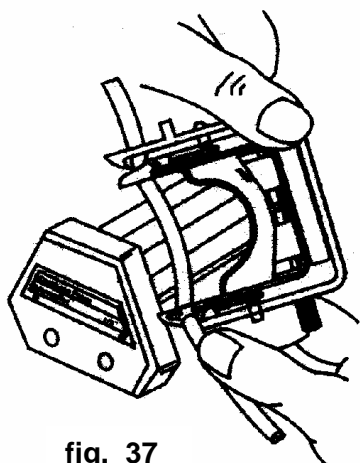
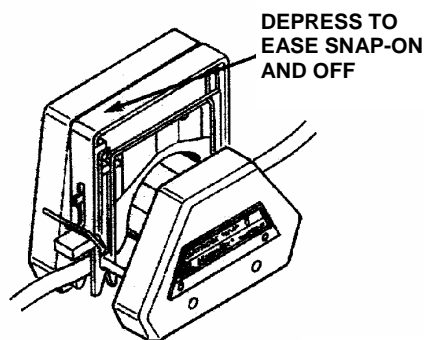

fig. 37
fig. 38
- Fold hose over rotor, depress latch (refer to fig. 37) until pawl snaps in (refer to fig. 38).
Note: as required, depress hose cassette at place marked in fig. 38, to ease snap action.
- Depress cassette's locking pawl (refer to fig. 38) and unhook from rod.